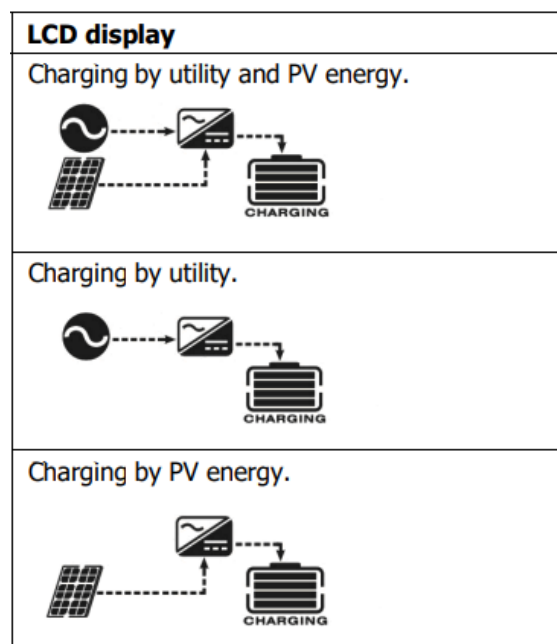

Figure 10.1 Power System Charging
1. Plug the unit into the wall outlet (6)
2. Turn on the battery (5)
3. Turn on the inverter (7)
4. Observe the display to confirm that the battery begins charging as shown by *Figure 10.1*, below.